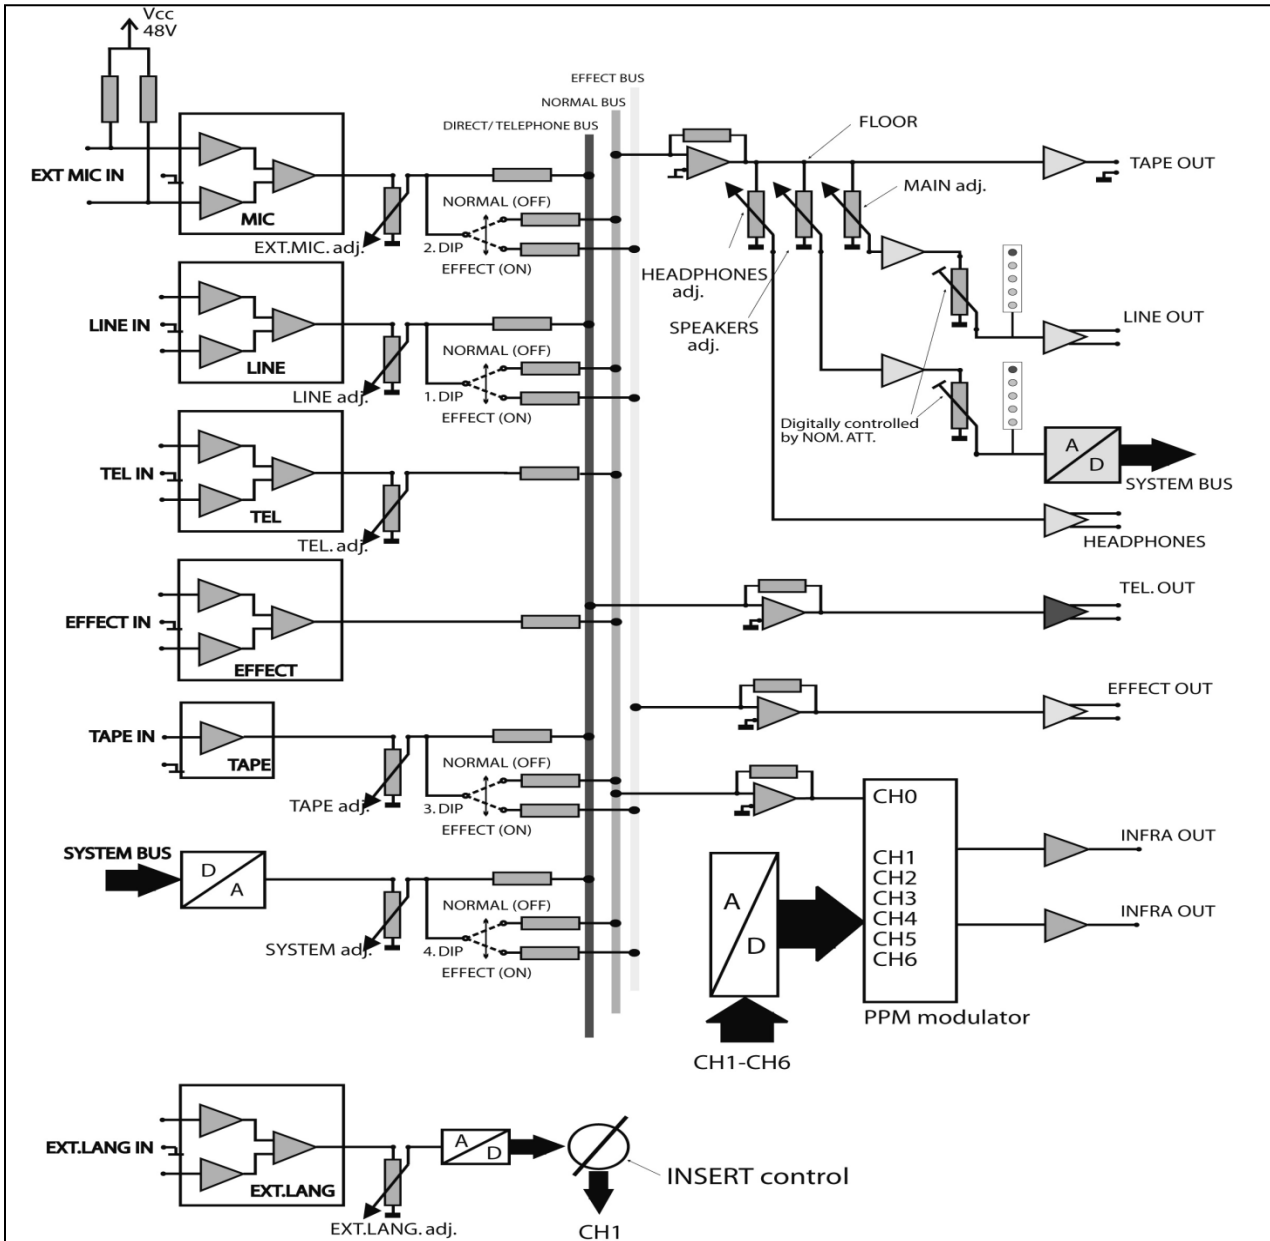

Fig. 3: Block diagram of the CS5 BU analog section.
1. Before powering up, set all front panel level controls to minimum (smallest dot) and set the rear panel dip switches as required. Refer to fig. 3 on page 19 and Table 1 below.